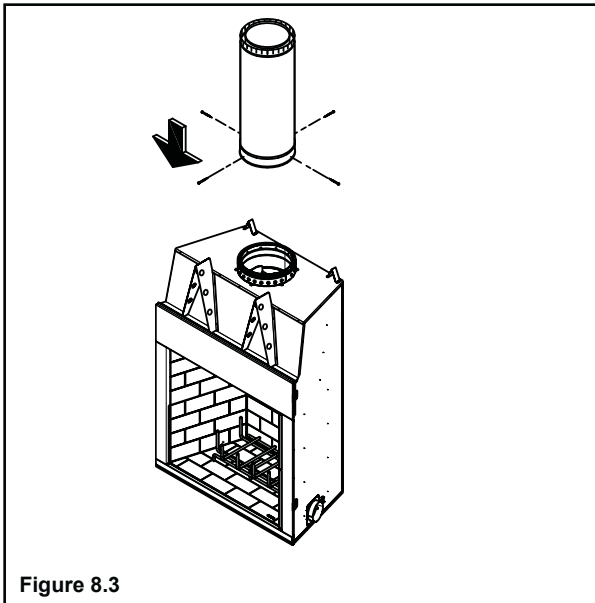

Figure 8.3
- Attach the first chimney section or offset onto the top of the fireplace (Figure 8.3). Sheet metal screws are required to connect chimney section to the fireplace starter collar. Continue to add additional sections of chimney as needed.